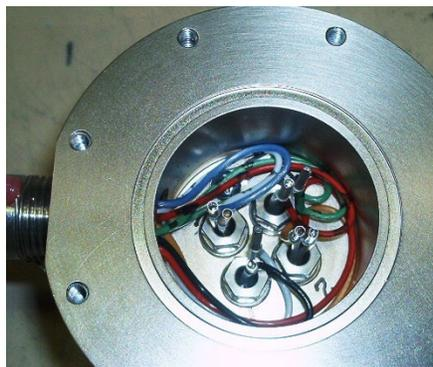

Fig. 8.12. Multiport TCD
8.3.8 Multiport Thermal Conductivity Detector (see Figure 8.12)